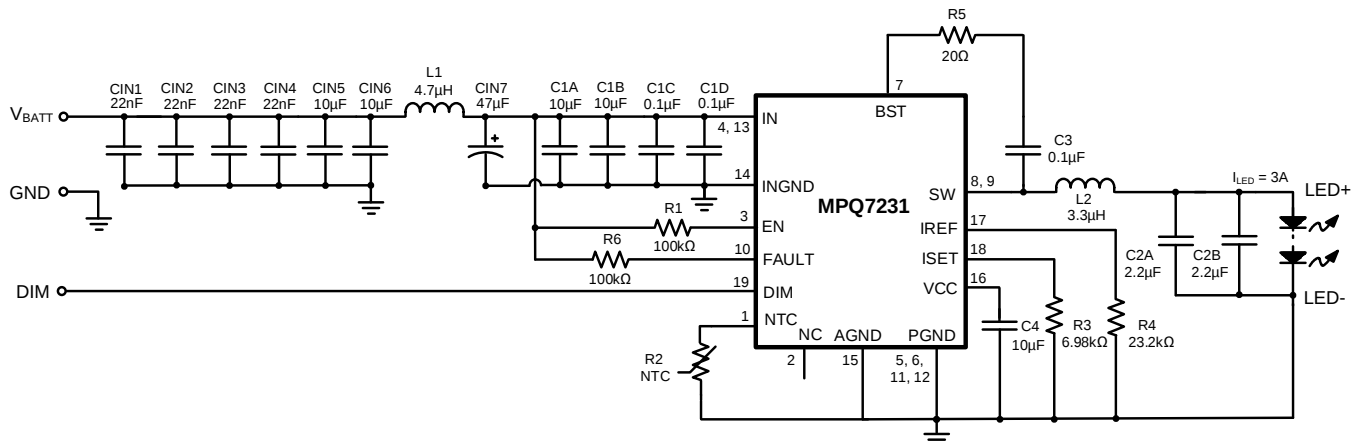

Figure 10: Typical Application Circuit ($I_{LED} = 3A$ Buck)
- 17) The recommended layout is based on Figure 10 on page 46.